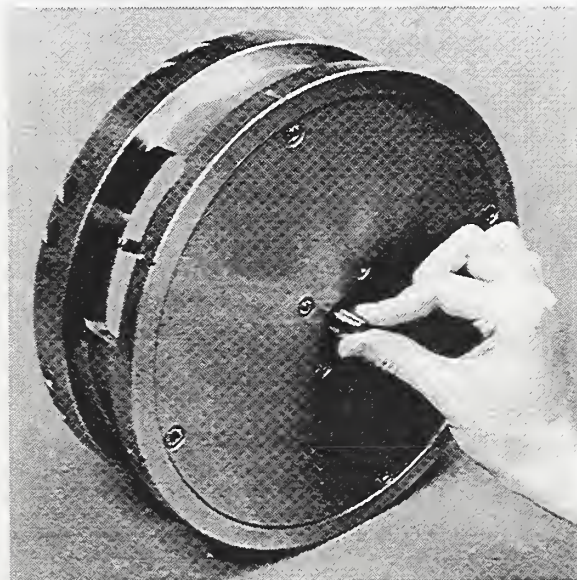

Figure 7. Inserting threaded stud adapter into the center hole of base unit
- Step 3. Select the appropriate threaded stud adapter that matches your threaded table insert and screw the M10 end of the threaded stud adapter into the center hole in the base unit. (Figure 7).